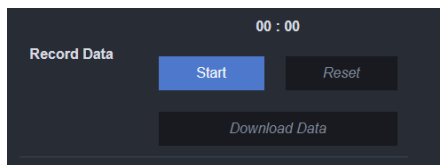

Figure 5.2 Start recording data
To start recording data, touch the Start Button. (Figure 5.2)
- To ensure the sensor is producing data, check that the yellow LED flashes while the program is running properly (Figure 5.2 B).